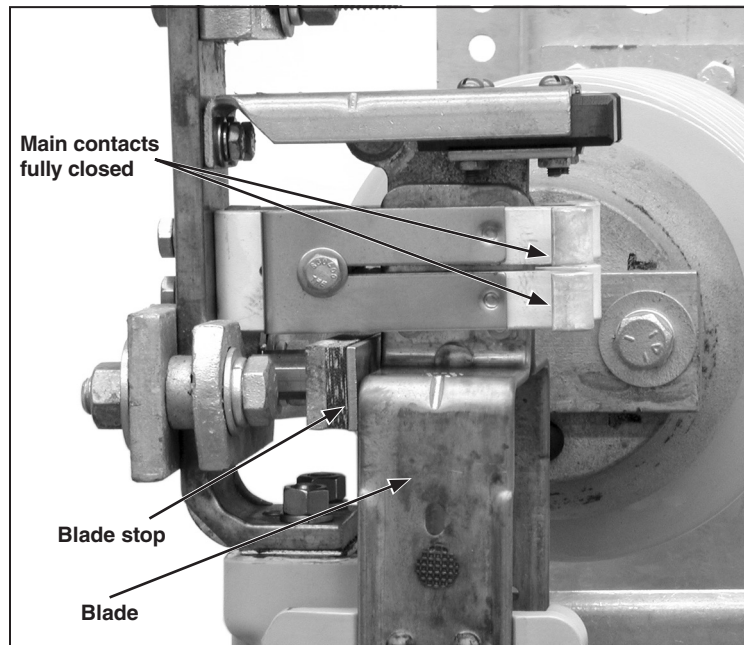

Figure 36. Check that the blade is fully closed.
- (a) With the operating handle as far as it will go in the closing direction, make sure all main contacts of the interrupter switch are fully closed with the blades against their blade stops. See Figure 36.